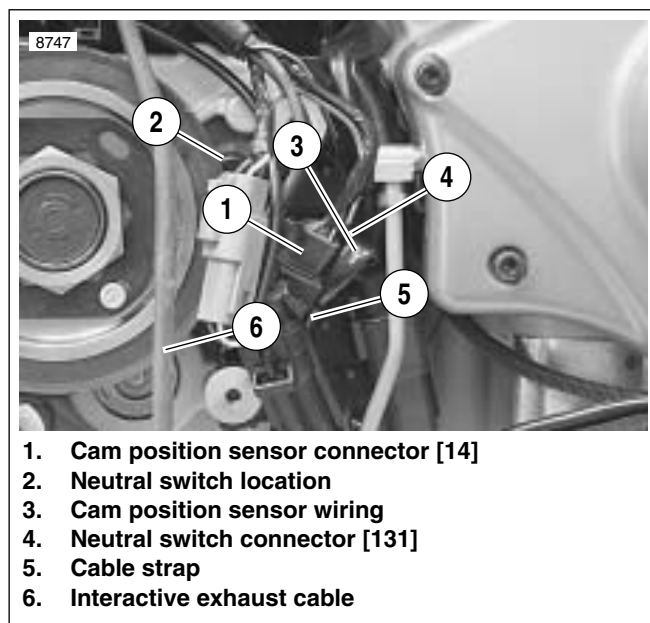

Figure 7-94. Neutral Switch Wiring
5. See Figure 7-94. Form a loop (6) as shown using neutral switch wiring.
6. Use cable strap (5) to secure cam position sensor (1), cam position sensor wiring (3), neutral switch connector (4) and neutral switch connector wiring (6).